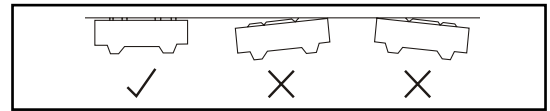

fig.1a
1. To guarantee proper drainage of condensation, position the plate in such a way that it is perfectly horizontal and surrounded by free space, making sure it is pointing as shown in fig. 1a.